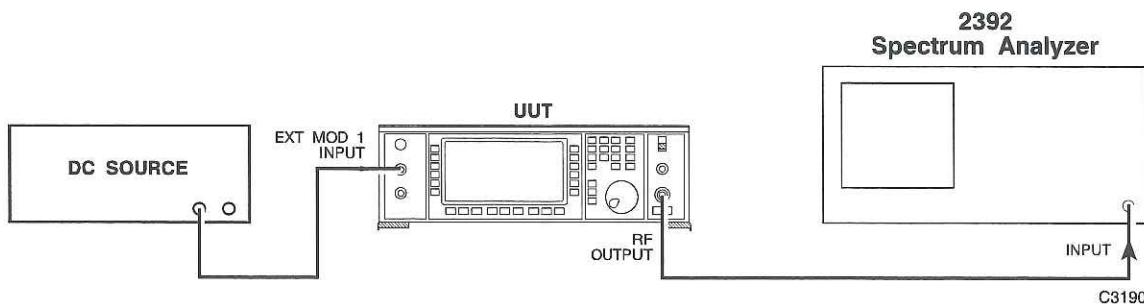

Fig. 5-2-3 Equipment configuration for AM trough nulling
- (a) Connect the DC source to the EXT MOD 1 INPUT on the UUT. Connect the RF OUTPUT on the UUT to the spectrum analyzer RF input. Equipment configuration is shown in Fig. 5-2-3.